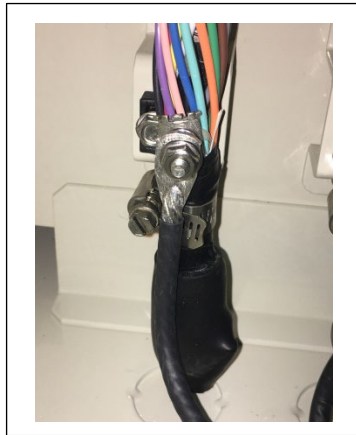

Figure 6
3. Mark the cable sheathing between the two bolts on the attachment piece and remove the sheathing from the mark to the end of the cable (Figure 6).